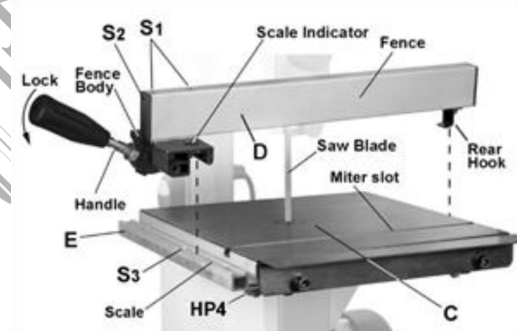

FIG. 10
Refer to Figure 10.
Place fence assembly (D, Figure 10) onto table at the miter slot. The rear hook should engage the rear of the table. The fence body should engage the guide rail (E). If the fence is not parallel to the miter slot:
### Fence scale adjustment (refer to Figure 10)